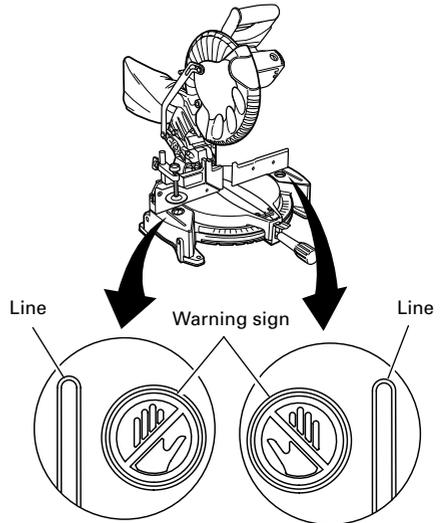

Fig. 4
- Never place your limbs inside of the line next to warning sign while the tool is being operated. This may cause hazardous conditions (see Fig. 4).